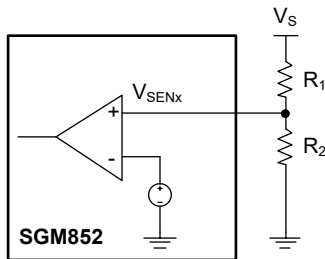

Figure 4. Setting Trigger Voltage of System
The dual sense inputs, VSEN1 and VSEN2, can monitor system voltage through a resistive divider network with  $V_{RTH}$  in a wide range. As shown in Figure 4,  $V_S$  is the system voltage. The trigger voltage of system  $V_{S\_TH}$  can be calculated by equation (1):